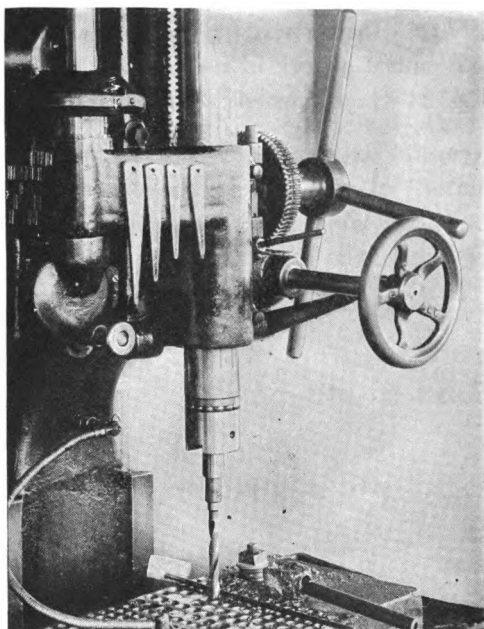

Fig. 25
- 96 In drifting a drill out of the socket, never use anything but a drift (Fig. 25). The use of such makeshifts as files or wedges is likely to permanently injure either the drill or the socket or both — with broken tangs resulting therefrom.